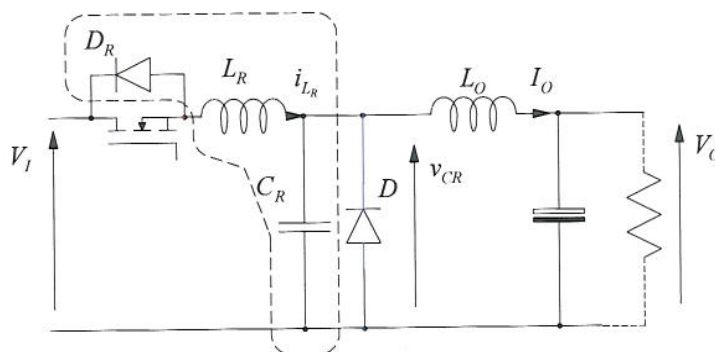
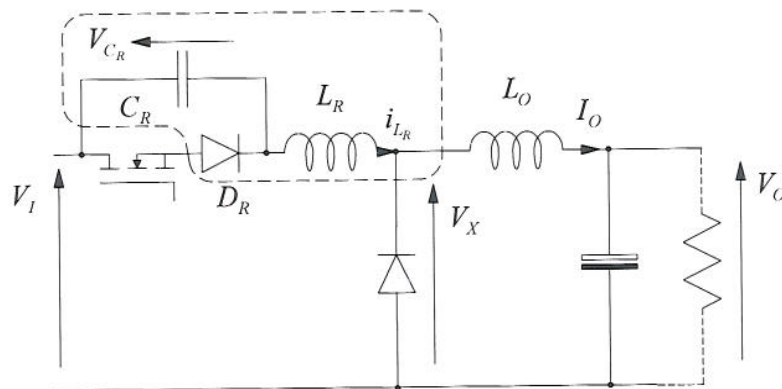

Figure Q4.3 Buck converter with 3 additional components
Figure Q4.4 Buck converter with 3 additional components in different configuration
- b) The circuit of Figure Q4.3 shows a buck converter, with 3 additional components added (inside the dotted line)
- (d) The circuit of Figure Q4.4 shows a buck converter, with 3 additional components added (inside the dotted line) in a different configuration to Figure Q4.3.